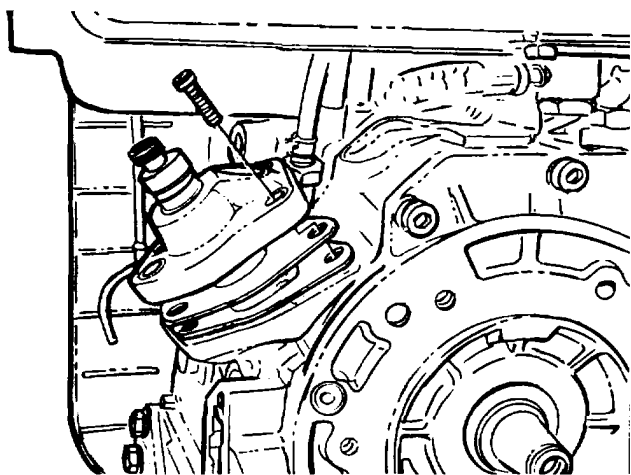

Figure 7-8. Removing Injection Pump for Shimming
g. If the circular reference mark is before the notch on the crankshaft support, the injection is too advanced, so that it is necessary to remove the pump and add shims (gaskets) between the pump flange and the crankcase, fig. 7-8.